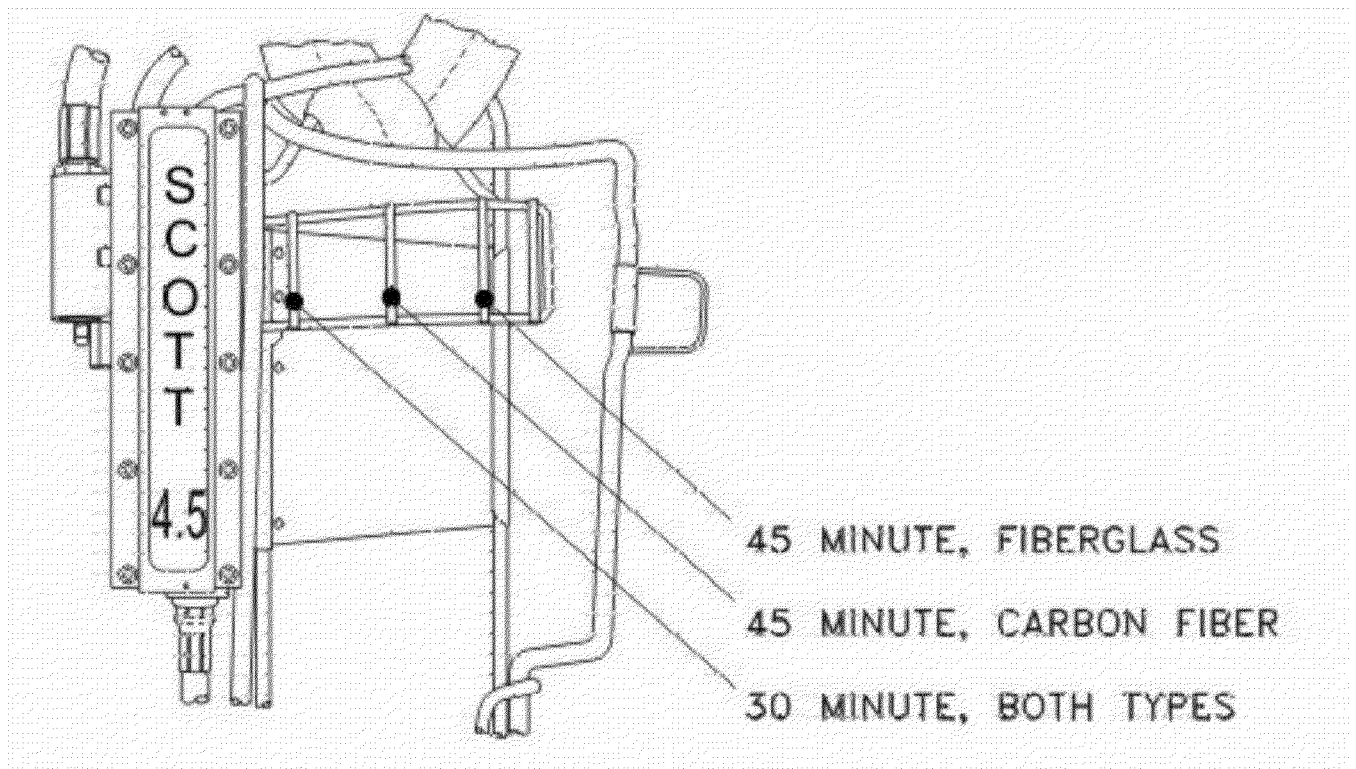

Figure 077-3-32. Cylinder Band Clamp Bail Positions
- Position cylinder band clamp on bail for different sized cylinders as follows: top position for 45-minute fiberglass cylinder, middle position for 45-minute carbon-fiber cylinder, and inner position for either type 30-minute cylinder (Figure 077-3-32).